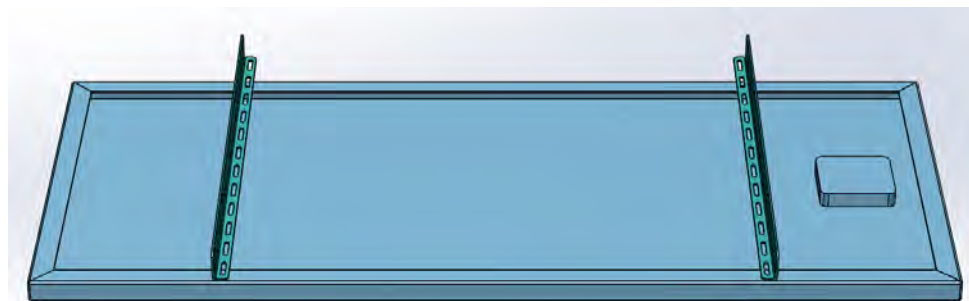

Figure 2. Mounting rails placed on rear surface of solar panel
2. Place the mounting rails on the back of the panel so the lip of the rail containing the panel mounting slots/holes are facing the center of the panel as shown in **Figure 2**. Align one end of the rails to be approximately flush with the bottom edge of the panel.